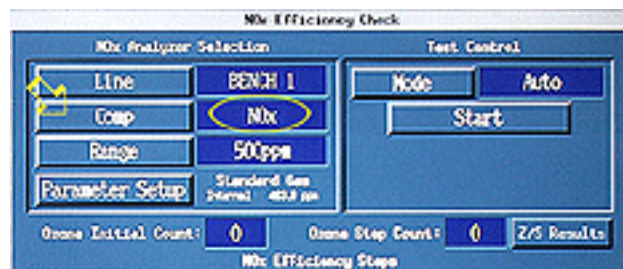

Figure 16
- 123 Click on the “Comp” button. See the arrow in Figure 16. From the menu items that appear below the button, click on “NOx.” See the circle in Figure 16.